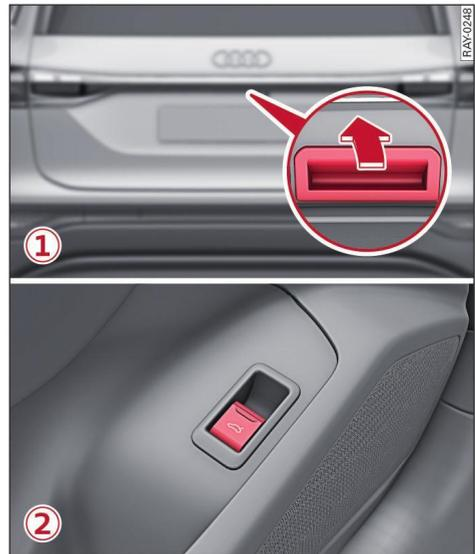

Fig. 10 Release catch in boot lid ①, button in driver's door ②
- ▶ Press the release catch on the boot lid ① ⇒ Fig. 10. The vehicle key or digital key must be within a range of about 1.5 metres from the luggage compartment if the luggage compartment is locked, or
- ▶ Briefly pull the  button ② in the driver's door ⇒ Fig. 10, or
⇒ Fig. 10 ⇒ page 33.
- ▶ With the vehicle switched on, pull and hold the  button  in the driver's door ⇒ Fig. 10 until the boot lid is closed, or
- ▶ You press button  or the release catch  on the boot lid ⇒ Fig. 10 again, or
- ▶ You press button ③ or the release catch ① on the boot lid ⇒ *page 43, Fig. 10* again, or